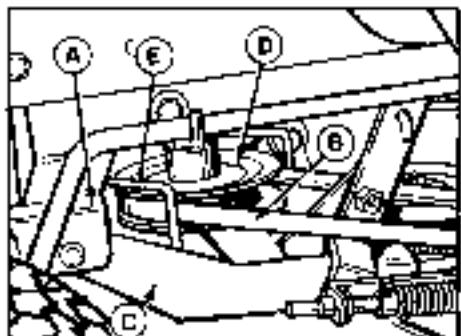
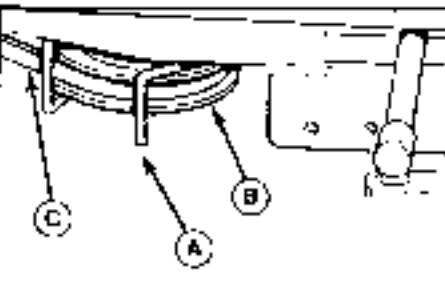

Figure 3. L.H. PTO Pulley Belt Stop
Figure 3A. R.H. PTO Pulley Belt Stop
- x. Slip the mower drive belt onto the Engine PTO pulley (D, figure 3). Loosen the belt stops if necessary. The left-hand belt stop is item E in figure 3. The right-hand belt stop is item A in figure 3A.